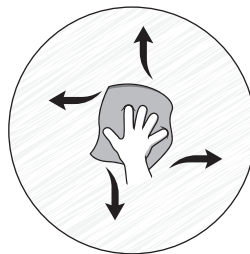

Fig. 13
- 6.2 Once in place, use a soft cloth to push the panel tightly against the wall on its entire surface to remove any air bubbles. **(Fig. 13)**